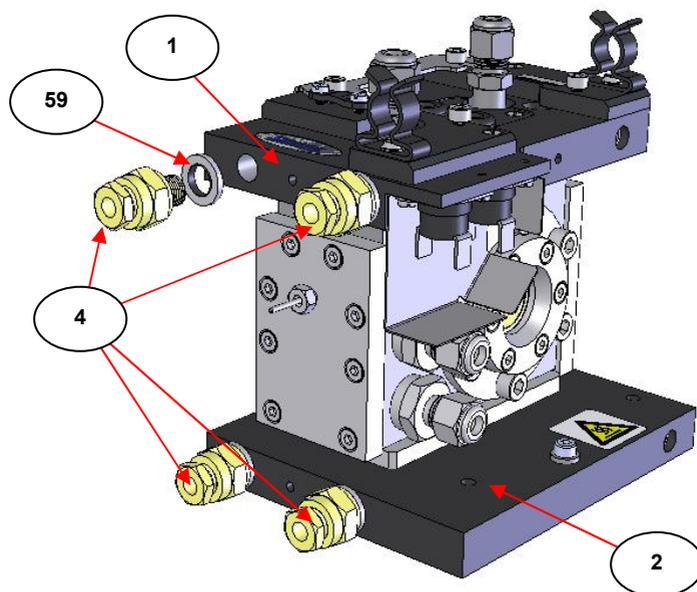

Fig 5. Removal of Standard Water Connection Fittings
Note: For explanation, **Figs 5. to 16.** show the HTHP Cell Accessory configured with the internal heater block assembly (10) for the **decomposition** mode of operation. The heater block assembly (10) **MUST** be fitted correctly into the HTHP Cell body (3) for the alternative **transmission** mode of operation, when wishing to use the HTHP Cell correctly for the **reflectance mode of operation** (See **Fig 17.**).
Using a **17mm A/F spanner** against the hexagonal nut head, undo (turn anti-clockwise) and remove the four standard water connection fittings (**4**) and their sealing washers (**59**) from both the upper (**1**) and lower (**2**) water cooled plates of the HTHP Cell. (See **Fig 5.**)
Note: *The heat shields (31) and (32) are not shown in Figs 5., 6. and 7. for explanation of installation of the banjo fittings (58) and water flow Nylon tubing connections required for a left to right beam direction spectrometer.*